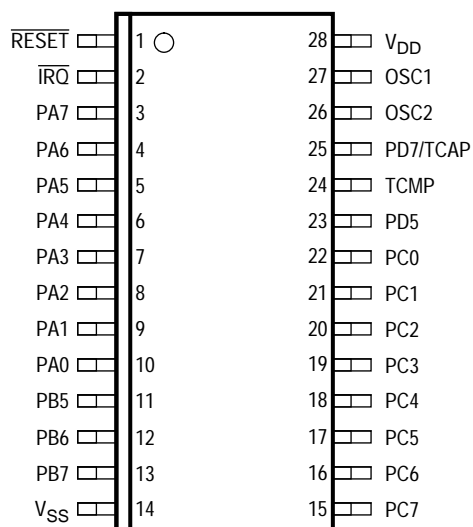

Figure 1-2. Single-Chip Pinout
The following paragraphs describe the functionality of each pin on the MC68HC05P1A package. The device also is available with an alternate pinout where V_{DD} and V_{SS} are adjacent to reduce radio frequency (RF) emissions. This also improves the ability to decouple V_{DD} and V_{SS} , which may provide some benefit for conducted RF emissions as well. The pinouts are shown in Figure 1-2 and Figure 1-3. They are compatible with the MC68HC05P1 microcontroller unit (MCU).